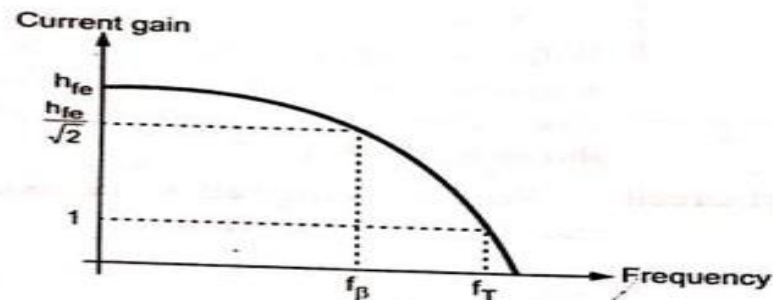

Fig. 3.9
Looking at equation (4) we can say that current is not constant. It depends on frequency. When frequency is small, the term containing f is very small compared to 1 and hence at low frequency, $A_i = -h_{fe}$. But as frequency increases A_i reduces as shown in Fig. 3.9.